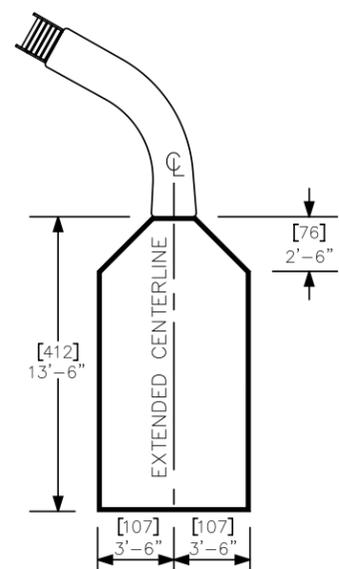

Figure 15
A. The minimum clearance distance on either side of the extended centerline of the slide runway shall not be less than 3'6" (107 cm) at a point no less than 2'6" (76 cm) from the exit lip of the slide and extending a distance of 13'6" (411 cm) in front of the slide as shown in Figure 15.